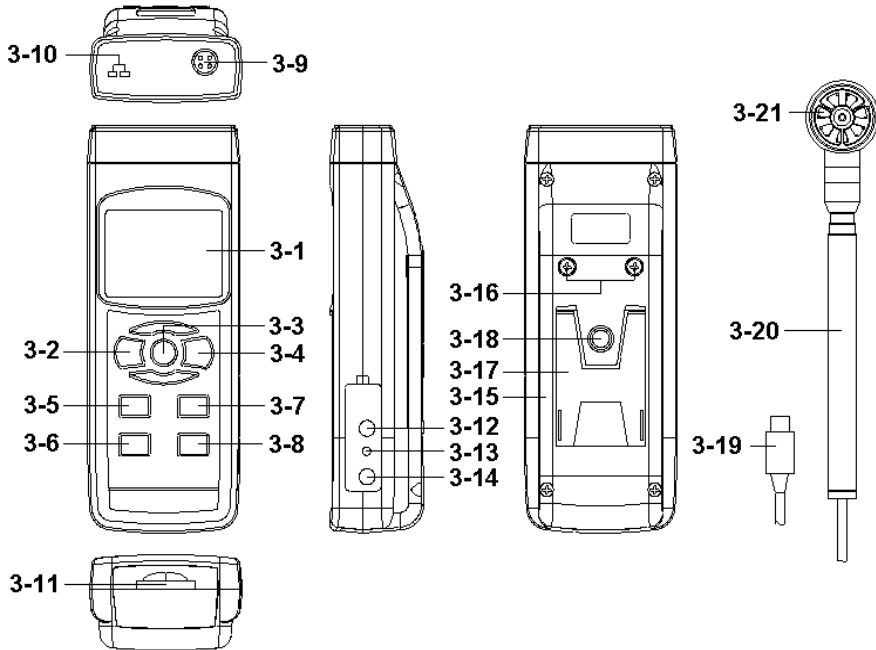

Fig. 1
1) Power on the meter by pressing the " Power button " (3-2, Fig. 1) > 1.5 seconds continuously.
Pressing the " Function Button " (3-7, Fig. 1) continuously (not release the button), the Display will show the following text in sequence :
Until the Display show the desired mode (Function), just release the " Function Button " (3-7, Fig. 1), the meter will execute this function with default.
- b.. Plug the " Probe Plug " (3-19, Fig. 1) into the " Probe Input Socket " (3-9, Fig. 1).
Power on the meter by pressing the " Power Button " (3-2, Fig. 1) > 1.5 seconds continuously.
- c. Hold the " Air/Temp. Probe " (3-20, Fig. 1) by hand and let the " Probe Head " (3-21, Fig. 1) face against the measuring air flow source, then the Display (3-1, Fig. 1) will show air velocity directly. At the same time, the lower Display will show the air temperature value.
If intend to change the Air velocity unit, press the Unit Button " (3-5, Fig. 1) > 1.5 seconds, the unit will change from m/s to Km/h, mph, Knot, FPM in sequence, until the desired unit is present on the Display release the " Unit Button ", the select unit will save into the memory with default.
- b. Plug the Thermocouple Temp. Probe (Type K Temp. probe or Type J Temp. probe, optional) into " Type K/J Probe Input Socket " (3-10, Fig. 1)
During the measurement, press the " Hold Button " (3-3, Fig. 1) once will hold the measured value & the LCD will display a " HOLD " symbol.
- 1) The data record function records the maximum and minimum readings. Press the " REC Button " (3-4, Fig. 1) once to start the Data Record function and there will be a " REC " symbol on the display.
- a) Press the " REC Button " (3-4, Fig. 1) once, the " REC MAX " symbol along with the maximum value will appear on the display.
- b) Press the " REC Button " (3-4, Fig. 1) again, the " REC MIN " symbol along with the minimum value will appear on the display.
- c) Press the " REC Button " (3-4, Fig. 1) again, the " MIN " symbol will be appeared, LCD only show the " REC " symbol, the meter start the Data Record function again.
- 3) To exit the memory record function, just press the " REC Button " (3-4, Fig. 1) > 1.5 seconds continuously. The display will revert to the current reading.
- 1) After power ON, the " LCD Backlight " will light automatically. During the measurement, press the " Backlight Button " (3-2, Fig. 1) once will turn OFF the " LCD Backlight ".
insert the SD card into the " SD card socket " (3-11, Fig. 1).
Press the " LOG Button (3-8, Fig. 1) > 1.5 seconds continuously, the lower LCD will show the text of " Log " (or show " Log " with the Temp. value alternately),
During execute the Datalogger function, if press the " LOG Button " (3-8, Fig. 1) once will pause the Datalogger function (stop to save the measuring data into the memory circuit temporally). In the same time the " REC " symbol will stop flashing, the lower LCD will show the text of " Log " (or show " Log " with the Temp. value alternately).
If press the " LOG Button " (3-8, Fig. 1) once again will execute the Datalogger again, the " REC " symbol will flashing.
During execute the Datalogger function, press the " LOG Button (3-8, Fig. 1) > 1.5 seconds continuously again will finish the Datalogger function, the " Log " text will be disappeared and finish the Datalogger function.